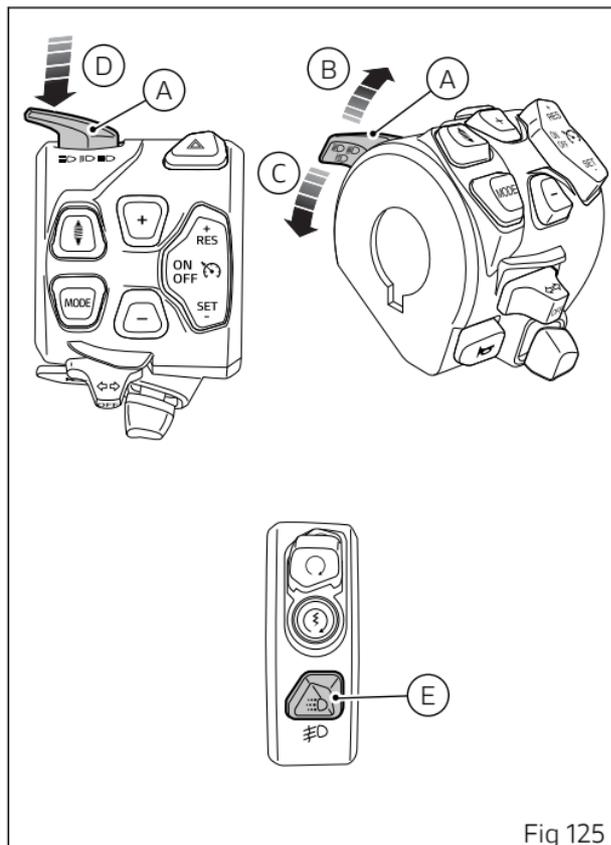

Fig 125
When the DRL is set to "Auto" mode, the corresponding warning light will turn on. If the DRL was set to "Auto" mode, press button (E, Fig 125) to disable that mode and set manual light management. Press again button (E, Fig 125) to re-enable DRL but with control strategy set to "Manual".
If the DRL lights are in this mode, as set through the "DRL" function within the "Setting menu" (page 282) DRL lights will not change their status upon key-on. To switch on or off the DRL lights, it is necessary to press button (E, Fig 125).
- if DRL lights are present, press and hold button (E, Fig 125) for a long time;
- if DRL lights are not present, press button (E, Fig 125).